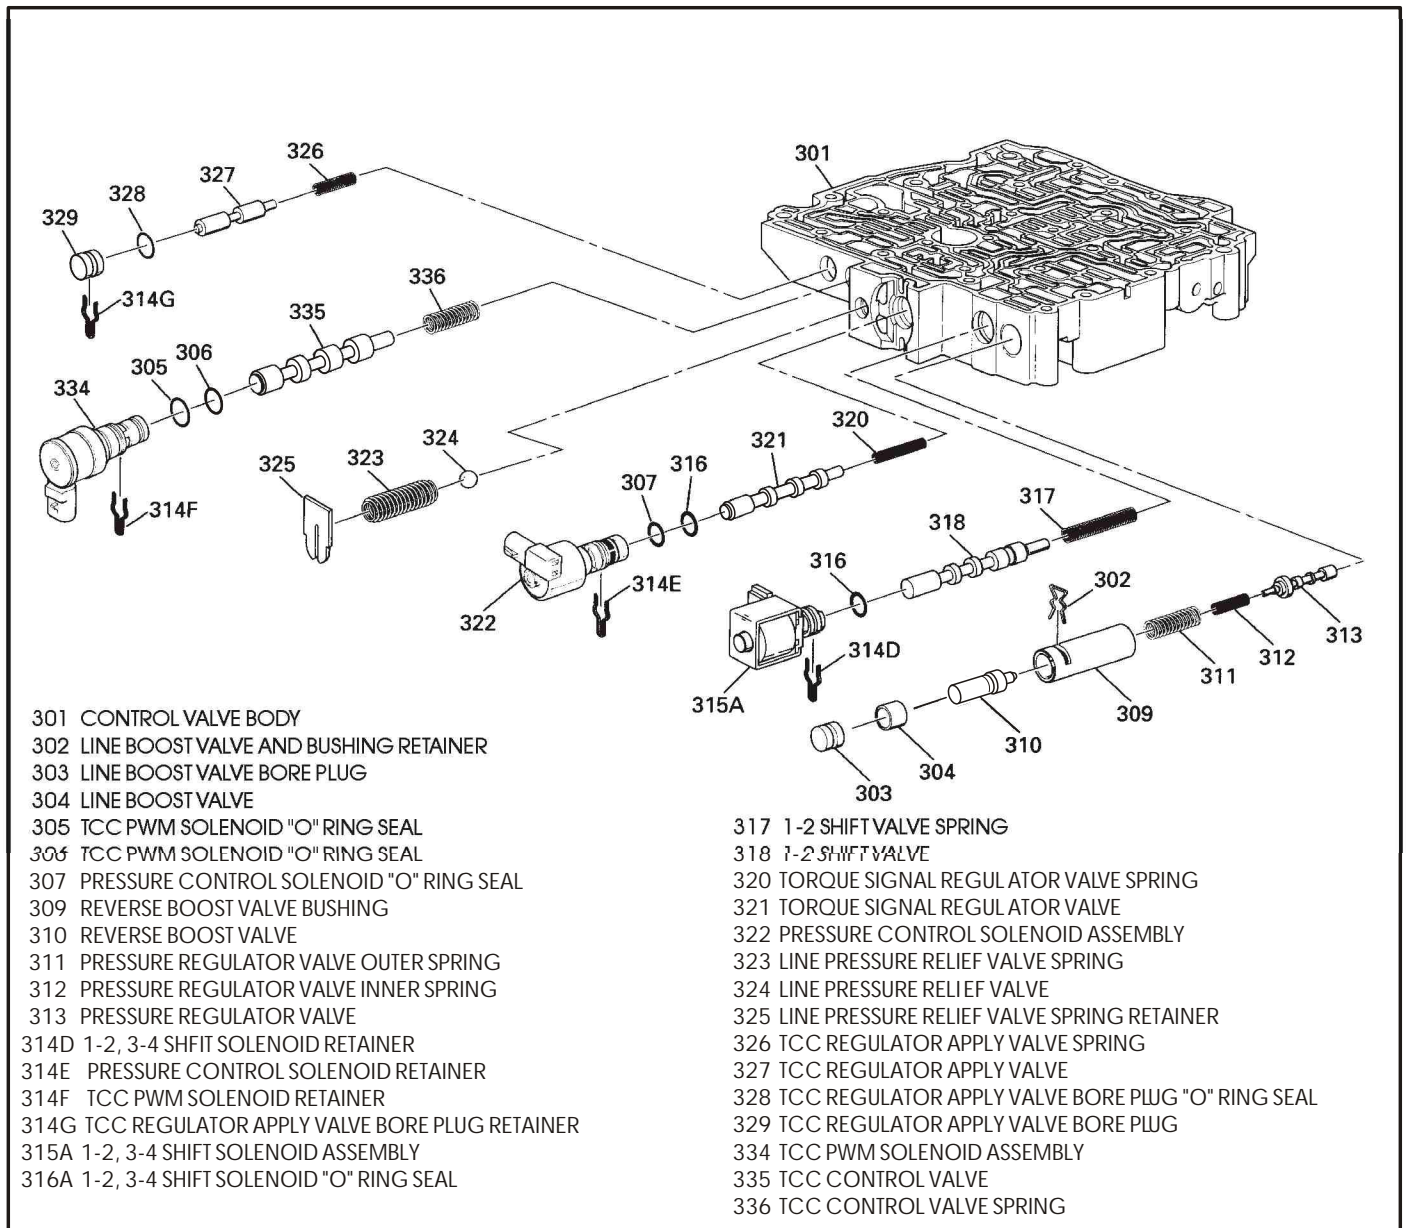

Figure 136
7. Use the illustrations in Figures 136 and 137, to reassemble the valves, springs, bushings in the proper order.